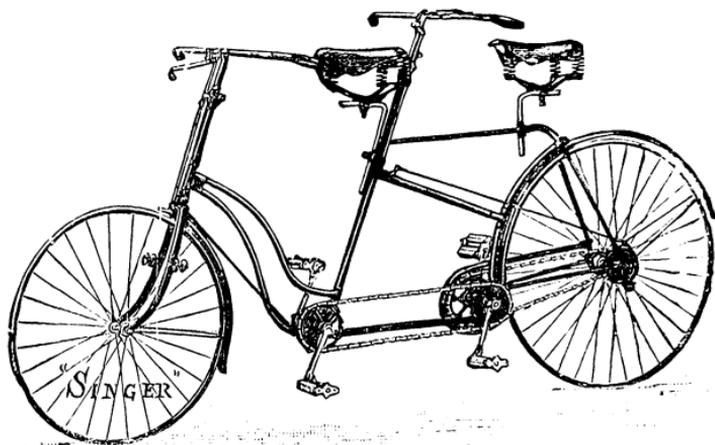

Fig. 43.—The Singer Tandem Bicycle.
*Tandem-Safeties.* The brilliant future anticipated for these has not yet been realised, and very few satisfactory machines have been constructed. Amongst these are the Ivel, Premier, Humber, Raleigh, Singer, etc. We illustrate, as a typical specimen, the Singer, as it shows low (connected) steering, and the front seat may be occupied by a lady (see Fig. 43), who can mount or dismount from either side—either has perfect control over the steering and